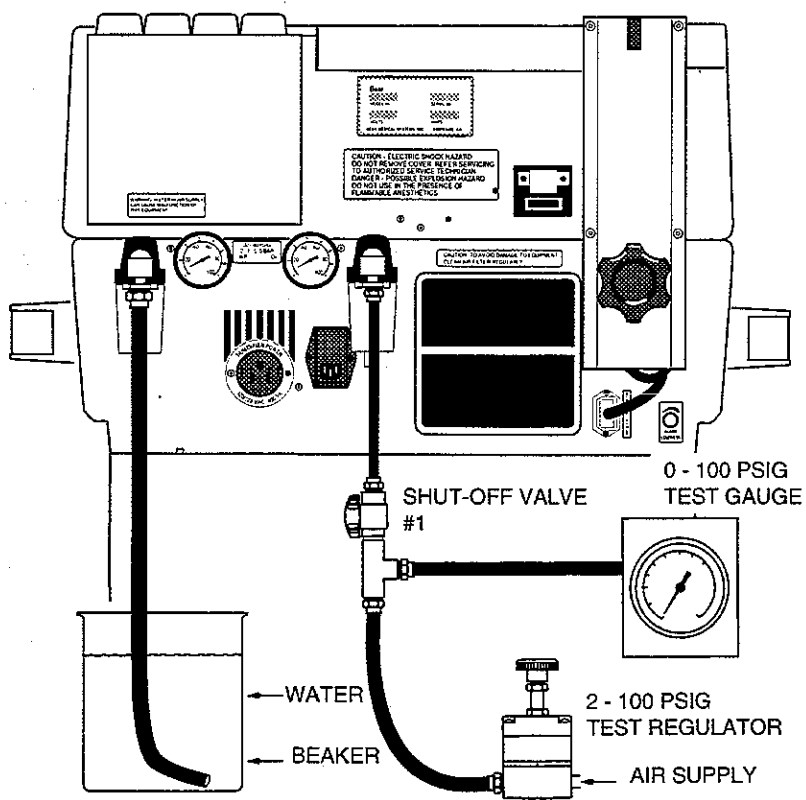

Figure 3-4
3. Connect the ventilator as shown in Figure 3-4.